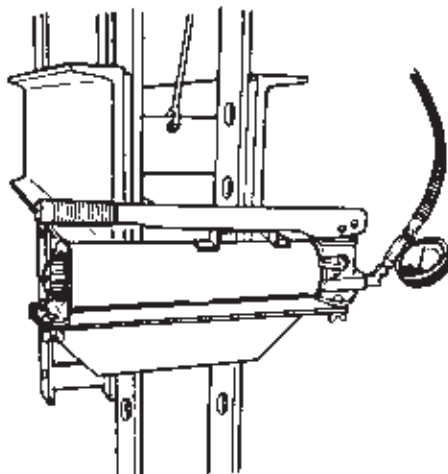

Figure 1
- B. Using the fasteners noted on the parts list, attach the pump to the pump mounting bracket. See Figures 1, 2, & 3.